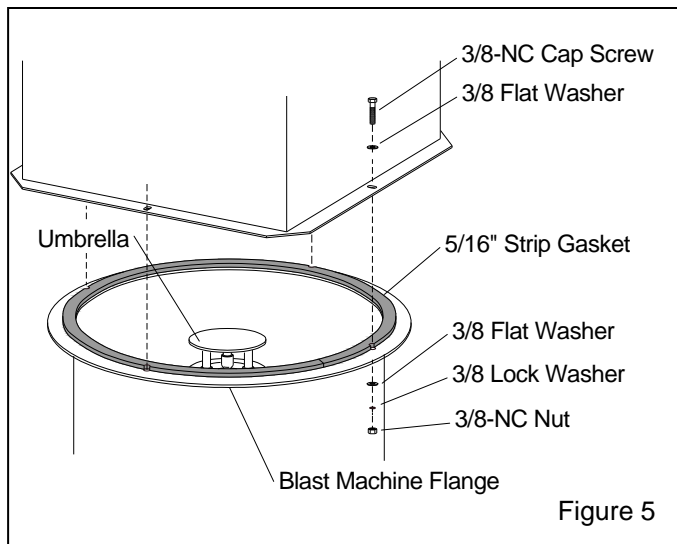

Figure 5
2.2 Installation on a 24-inch Diameter Blast Machine with Flange, Refer to Figure 5.
2.6.5 Recheck orientation of the blast machine and the abrasive cleaner inlet chute and ducting port. When satisfied that all are correctly positioned, use fasteners provided to secure the cleaner to the blast machine flange, mounting clamp, or 2-pot stand, as shown in Figures 5, 6, 8, and 9. When using a 2-pot stand, refer to the 2-pot stand manual for placement of the blast machine and covers. Make sure all fasteners are tight.